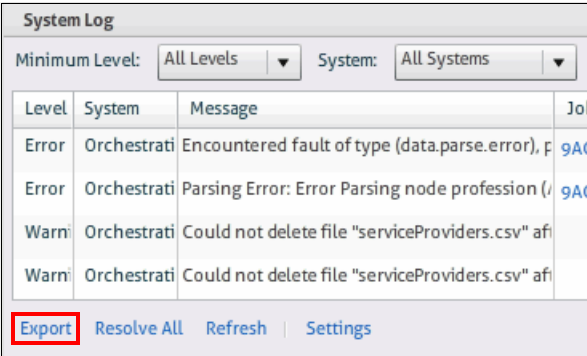

Figure 4-64 Export link at the System Log page
1. Click **Export** on the bottom of the System Log page to create a system log export file, as shown in Figure 4-64.